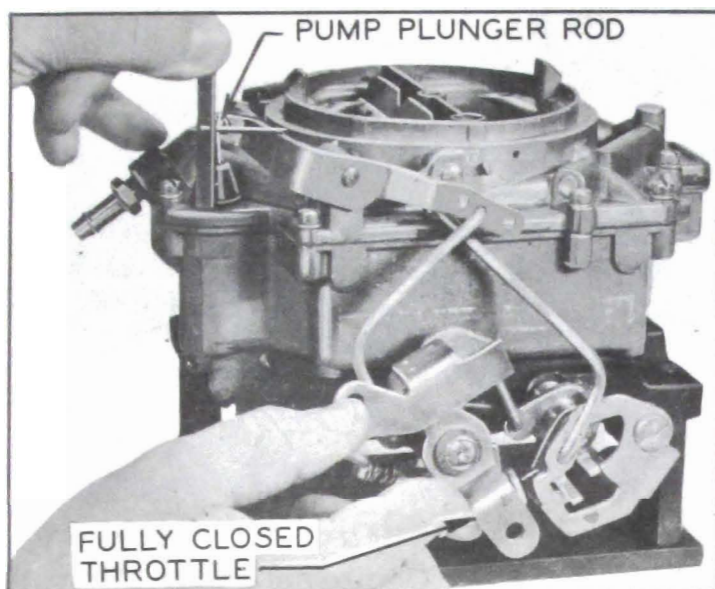
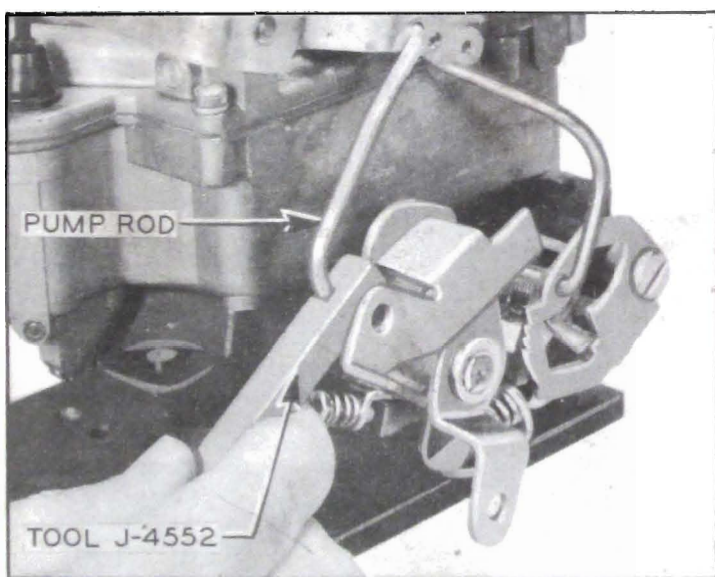

Figure 3-97—Checking Pump Plunger Adjustment
Figure 3-98—Adjusting Pump Plunger
24. Push fast idle cam to full down position and back out throttle stop screw until primary throttle valves can be fully closed. With throttle held closed, measure vertically from under side of pump plunger offset to air horn casting. See figure 3-97. Bend pump rod as required to obtain  $1\frac{1}{64}$ " measurement using Tool J-4552. See figure 3-98.